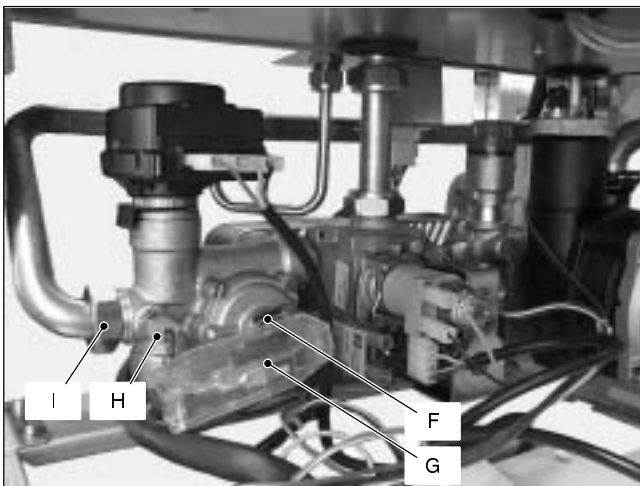

Fig. 25
- 4 Remove the fixing spring *F* (Fig. 25) and remove the primary circuit flow switch *G*.